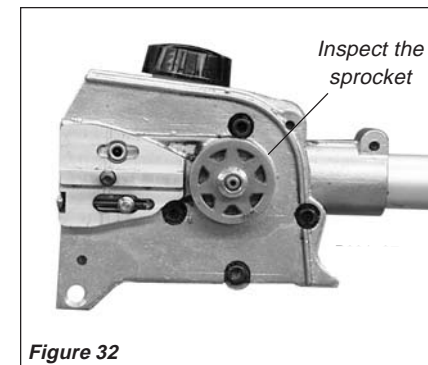

Figure 32
- Remove the sprocket cover and inspect the sprocket for excessive dirt, debris, or wear. Remove the guide bar and clean out the guide bar groove. If the sprocket is excessively worn, replace it with a new one. See Figure 32.